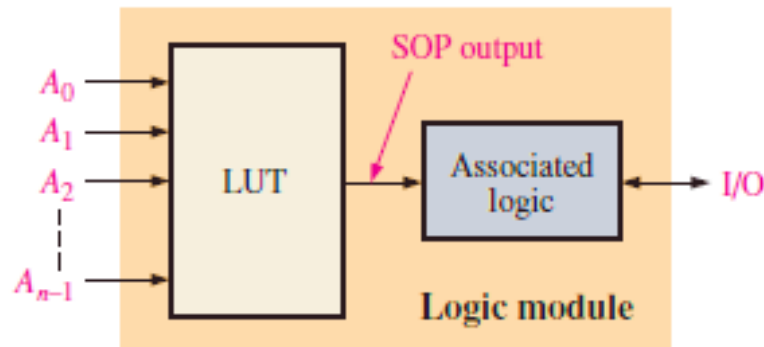

FIGURE 11 Basic block diagram of a logic module in an FPGA.
- ❑ A block diagram of a typical LUT-based logic module is shown in Figure 11. As you know, an LUT (look-up table) is a type of memory that is programmable and used to generate SOP combinational logic functions. The LUT essentially does the same job as the PAL or PLA does.